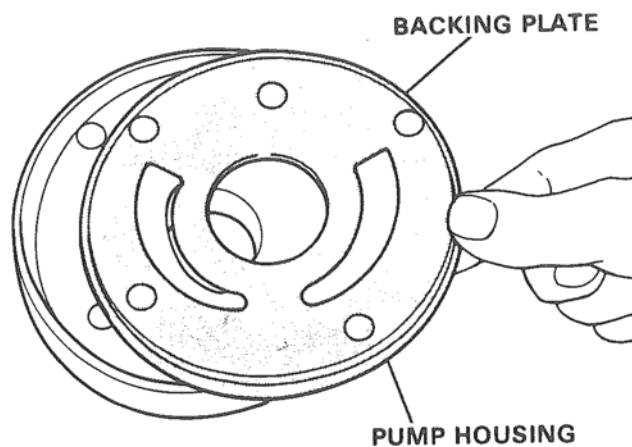

Figure 108. Assembling Backing Plate.
5. Inspect both faces of backing plate for dirt, lubricate and assemble. Figure 108.